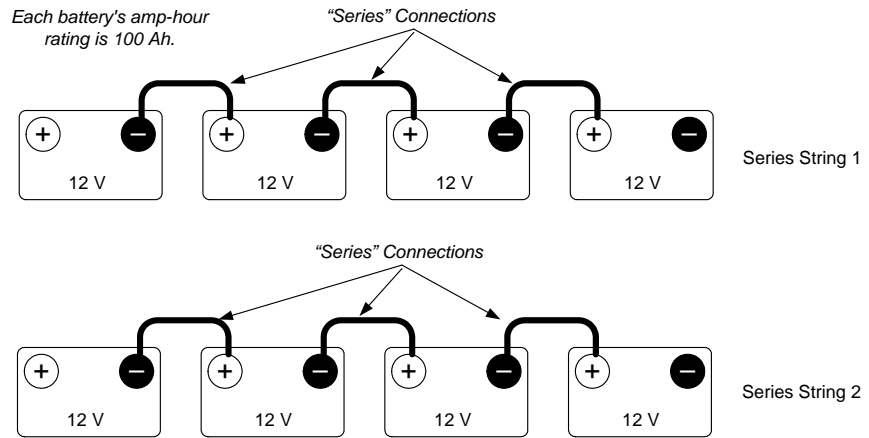
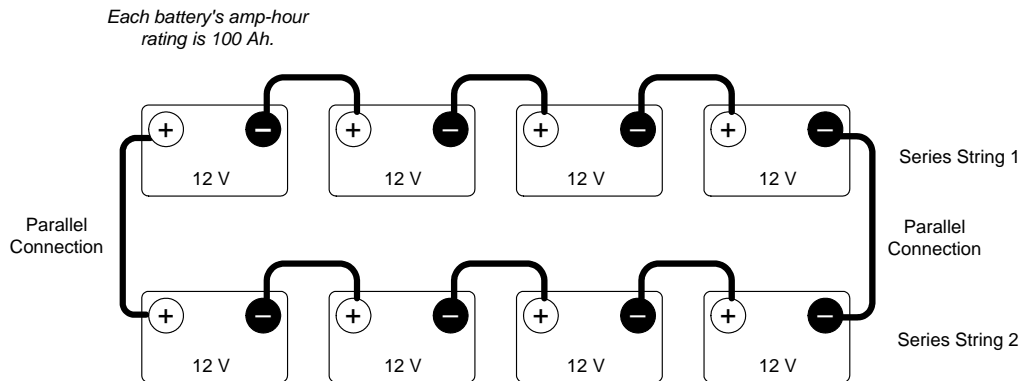

Figure 4 Step 1 - Wiring Batteries in “Series”
Figure 5 Step 2 - Two series strings wiring in “Parallel”
1. First wire the batteries in “series” (voltage adds) with the positive terminal of one battery connected to the negative terminal of the next battery to meet the inverter’s DC input requirements (48 volts shown in Figure 4 and Figure 5.)